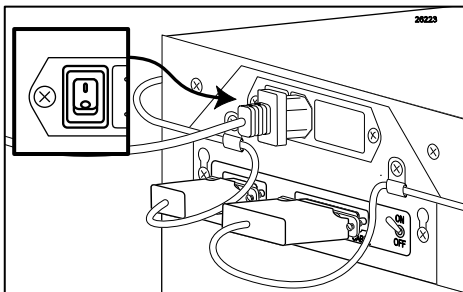

Figure 155
5. Activate the unit using the power-switch next to the power cable. (See Figure 155.)